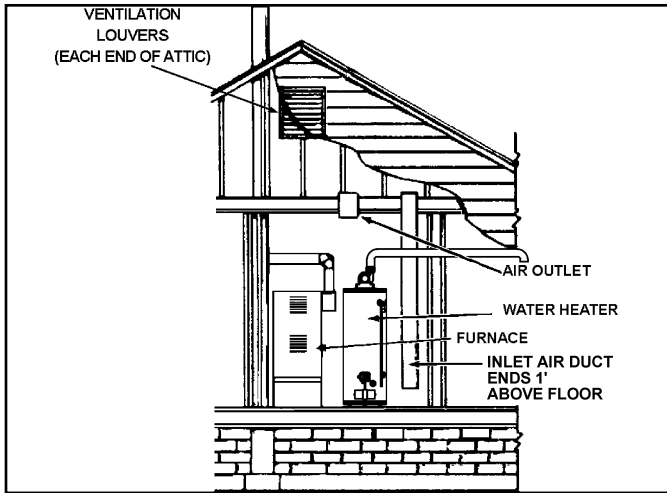

Figure 17.
2. When communicating with the outdoors through vertical ducts, each opening shall have a minimum free area of 1 square inch per 4,000 Btu/hr of total input rating of all equipment in the enclosure (see Figure 17).